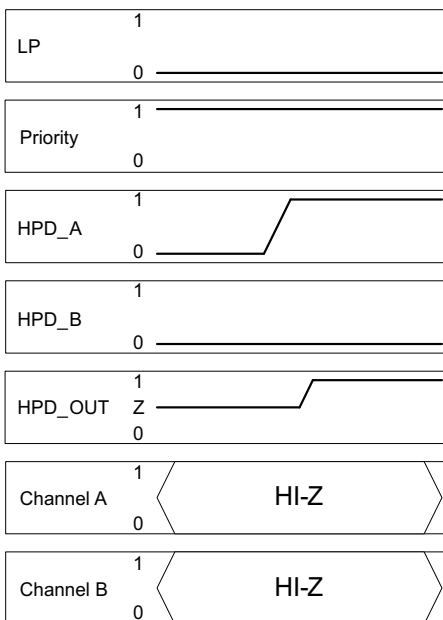

Figure 18.
- Case one: In this case both HPD inputs are initially LOW and the low power pin is also LOW. In this initial state the device is in a low power mode. Once one of the HPD inputs goes to a HIGH state, the device remains in the low power mode with both the main link and auxiliary I/O in a high impedance state. However, the port associated with the HPD input that went HIGH is still selected and the HPD output to the source is enabled and follows the logic state of the input HPD (see Figure 18). The state of the Priority pin has no effect in this scenario as only one HPD input port is active.